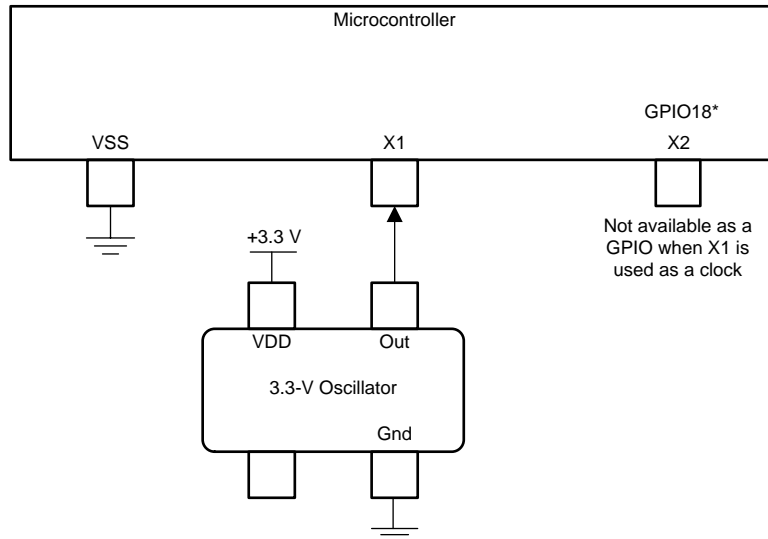

图 5-12. Single-ended 3.3-V External Clock
- A single-ended 3.3-V external clock. The clock signal should be connected to X1, as shown in 图 5-12, with the XTALCR.SE bit set to 1.